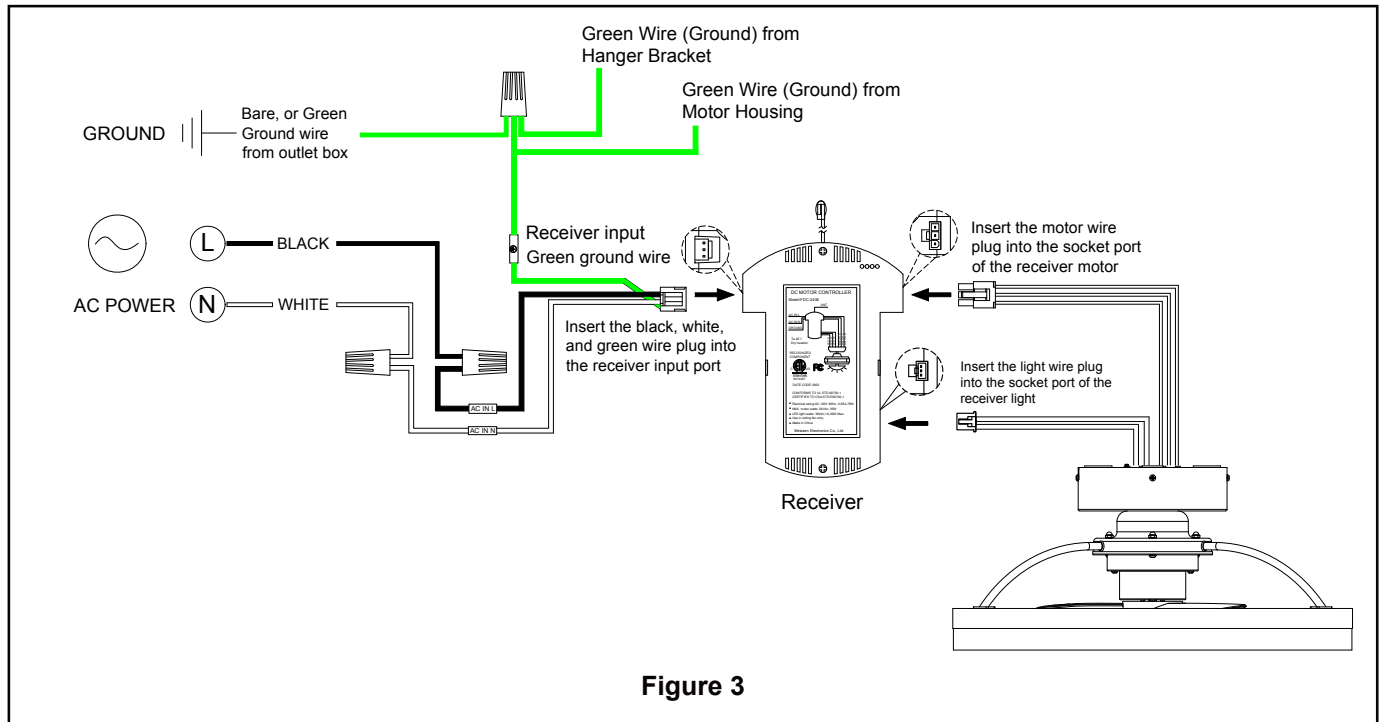

Figure 3
1. Loosen the two symmetrical screw at the keyhole first, these two screw should remain on the hanger bracket, and take out the other two screw on the hanger bracket for subsequent installation, Rotate and remove the hanger bracket.(Figure 3)
3. Connect green wires from Receiver input Green ground wire from hanger bracket and motor housing to bare (ground) wire from outlet box. Connect black wire from Receiver input marked "AC IN L" to black (ungrounded) supply wire using wire connector. Connect white wire from Receiver input marked "AC IN N" to white (grounded) supply wire using wire connector. Connect the motor plug wire to the receiver output corresponding motor female socket. Connect the light plug wire to the receiver output corresponding light female socket. (Figure 3)